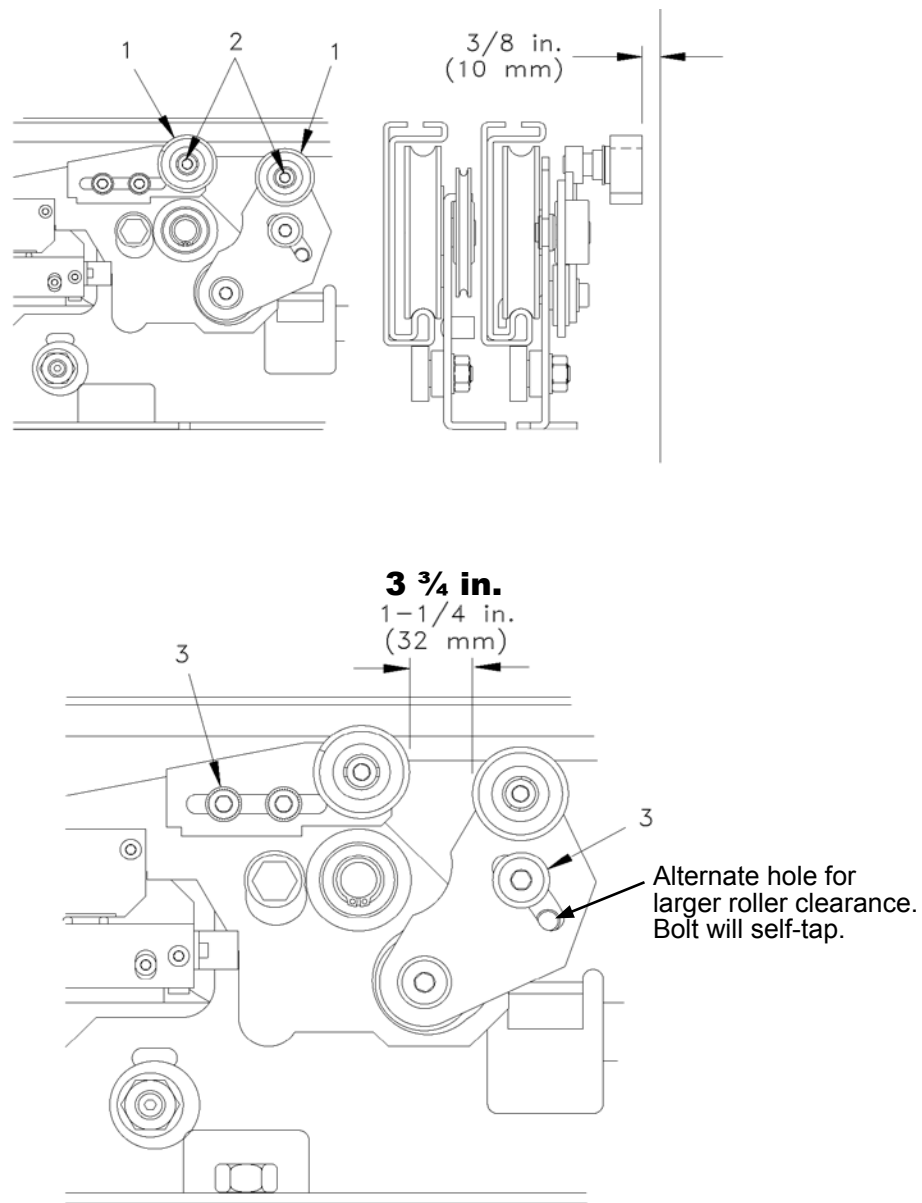

Figure 29 Adjusting Door Drive Rollers
1. If adjustment is necessary, loosen the set screws (2) and adjust door drive rollers (1) in or out.
2. Verify dimension between the inside of the door drive rollers (1) is 1-1/4 inches (32 mm) and the outside of the door drive rollers is 3-3/4 inches (101 mm).
3. If adjustment is necessary, loosen screws (3), and move door drive rollers. Tighten screws (3) after adjusting.
4. Make sure there is 3/8 inch (10 mm) clearance between the front of the door drive rollers (1) and the edge of the platform. Refer to Figure 29.